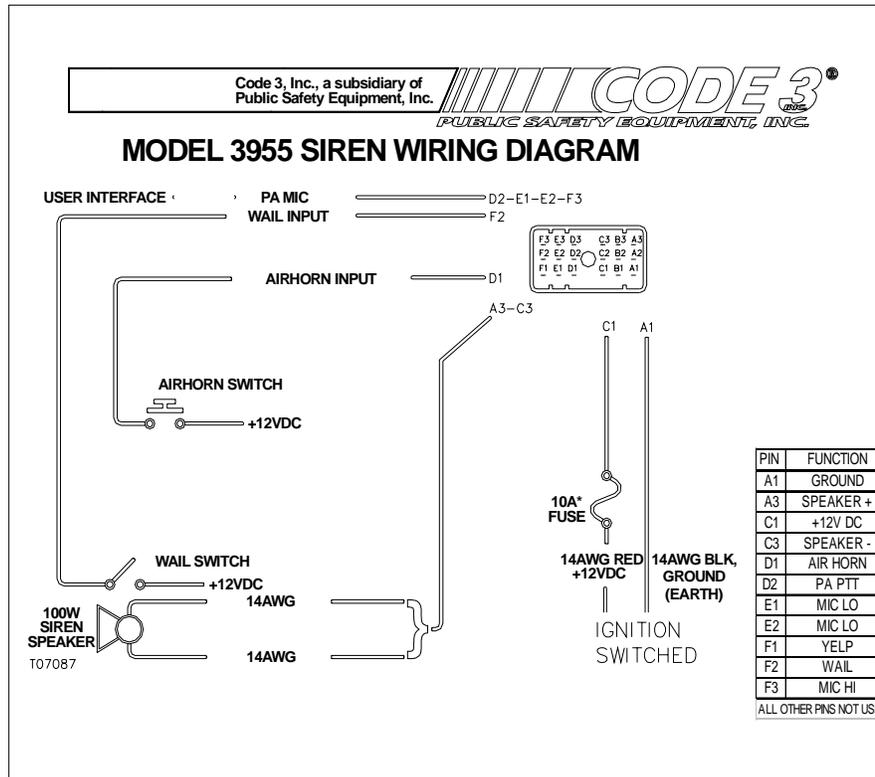

Figure 1
**Connections** (see Figure 1), motorcycle wiring harness.
(Refer to Figure 1 - Wiring Diagram)